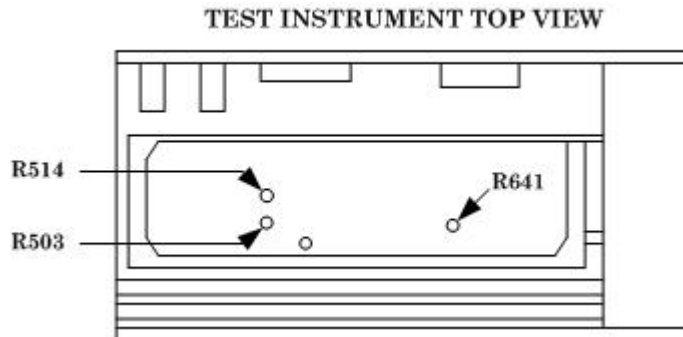

Figure 4. Adjustment locations.
- (1) Press **SHIFT-INSTR PRESET** pushbuttons, **PARAMETER-LEVEL** pushbutton, then press **ON/OFF-OFF** key.
- (2) Remove top cover.
- (3) Press pushbuttons as listed in (a) through (f) below:
- (4) Adjust R514 (fig 4) for a  $0 \pm 0.1$  dBm power indication (R).
- (5) Press TI **PARAMETER-RF** pushbutton, enter **DATA 8** numerical value, and press **ENTER/UNITS MHz** key.
- (6) Using measuring receiver RF power measurement techniques, measure RF power and set **RATIO** on.
- (7) Press TI **PARAMETER-RF** pushbutton, enter **DATA 7.999** numerical value and press **ENTER/UNITS MHz** key.
- (8) Using measuring receiver, set tune receiver to 7.999 MHz and measure RF power.
- (9) Adjust R641 (fig. 4) for a  $0.00 \pm 0.05$  dBm power indication on measuring receiver. (R)
- (10) Press **SHIFT-INSTR PRESET** pushbuttons, **PARAMETER-LEVEL** pushbutton, and press **ON/OFF-OFF** key.
- (11) Replace top cover.